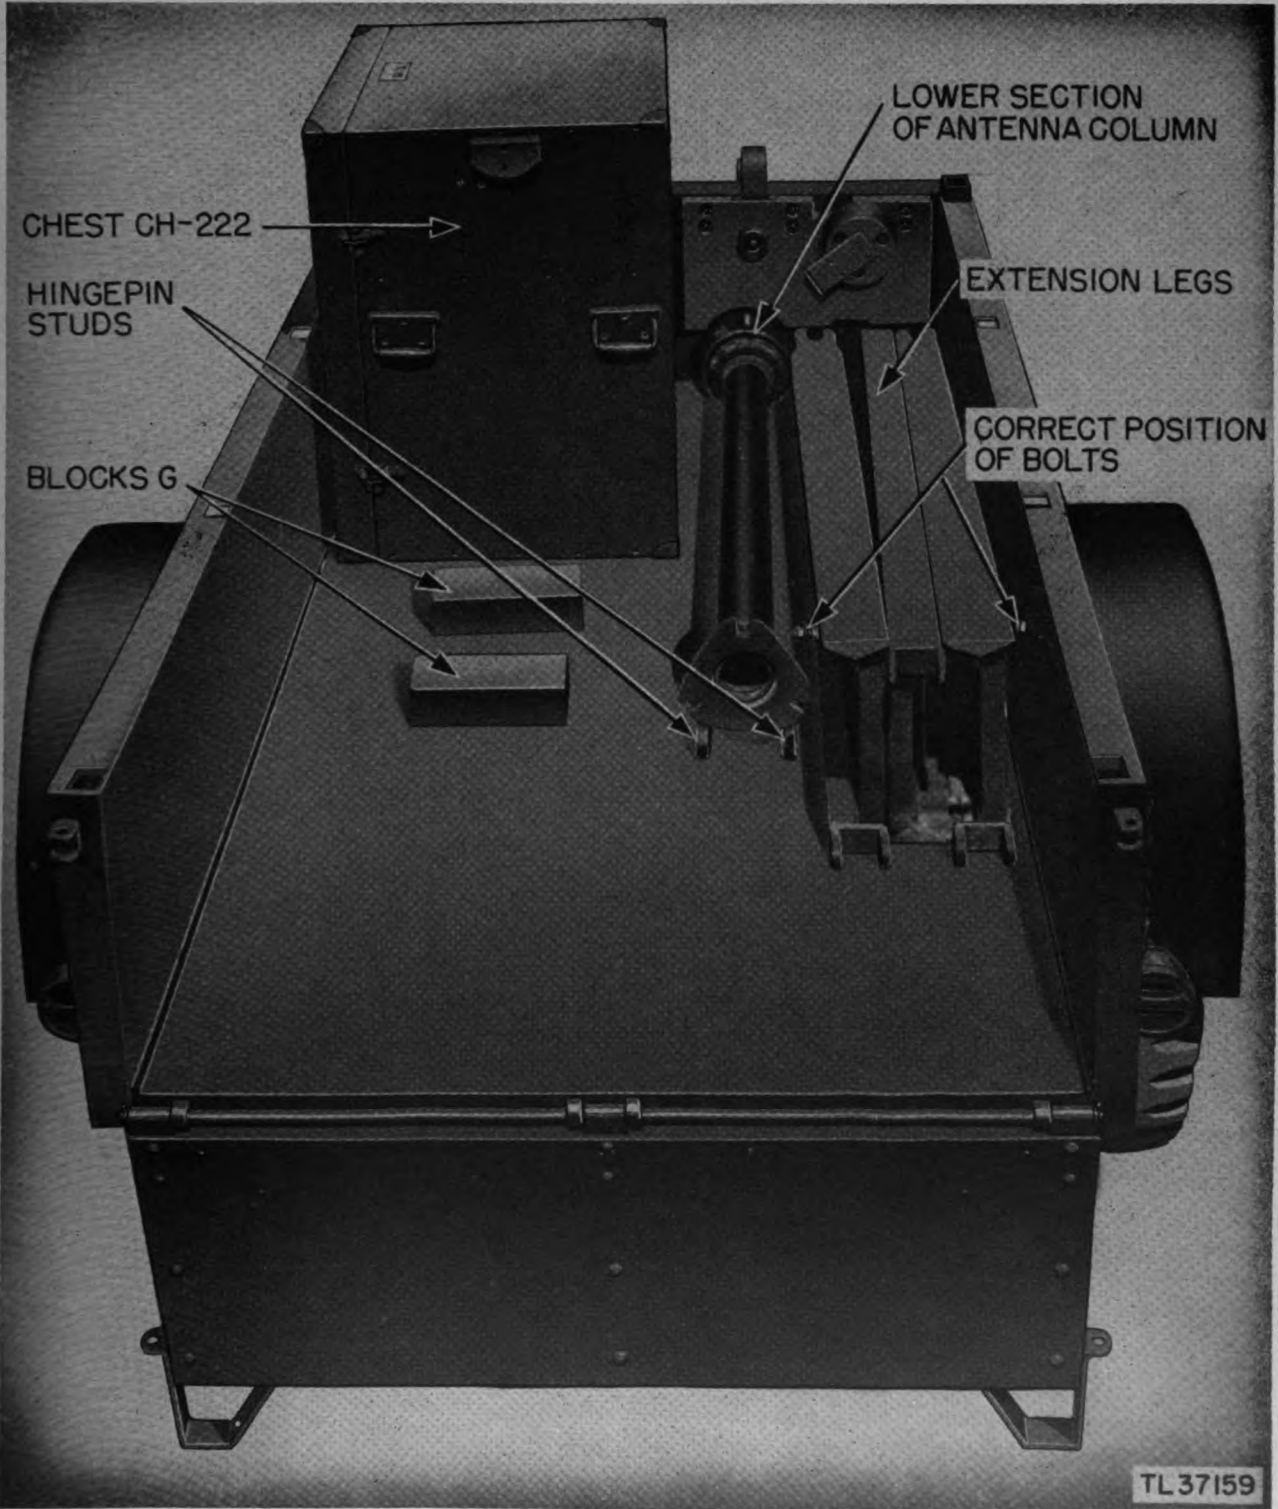

Figure 114. Chest CH-222 in place.
c. Set Chest CH-222 in the forward left-hand corner tight against block C, with the carrying handles to the front and rear and the cover toward the outside of the trailer (fig. 114).
d. Place the lower section of the antenna column in the groove provided on block C, with the hinge-pin studs resting on the floor boards (fig. 114).
e. Set the three extension legs on the right-hand side of the trailer with the narrow ends up against the front of the trailer and under the groove on block C. The outer legs should have the hinge bolts up (fig. 114).
f. Lay the blocks G on the trailer bed approximately 6 inches on Chest CH-222 (fig. 114).